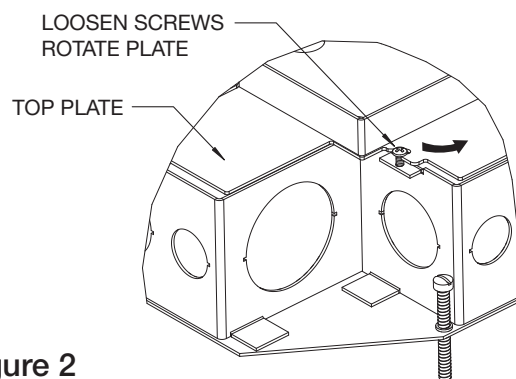

Figure 2
1. Remove the top of box, loosen (4) top screws and rotate top plate away from screws. See figure 2.